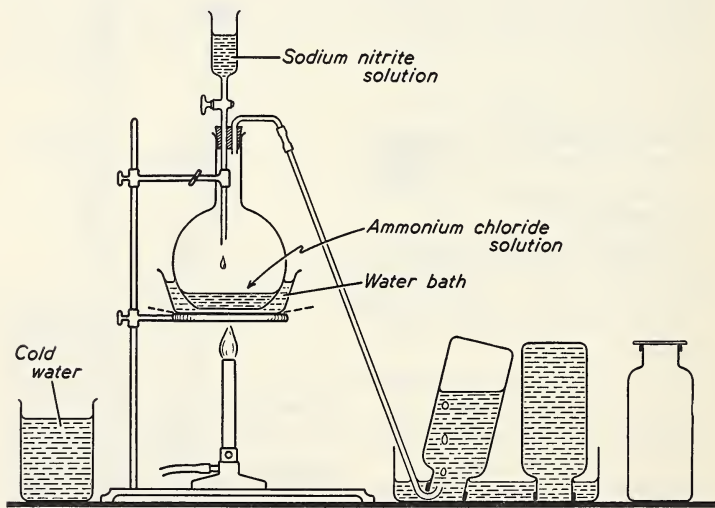

Fig. 31. The laboratory preparation and collection of pure nitrogen.
1. Prepare a solution of sodium nitrite by stirring 20 gm. of the solid in 100 ml. of water. Place 30 ml. of a saturated solution of ammonium chloride in a flask fitted with a dropping funnel and a delivery tube (Fig. 31). Place the flask in a water bath, and *with the tap closed*, pour some of the sodium nitrite solution into the dropping funnel. Have a beaker of cold water handy.